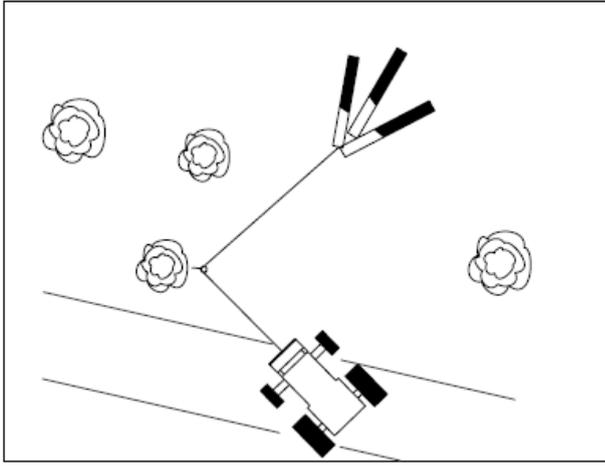

Fig. 7.
1. Choose a horizontal, hard based skidding route for the tractor. Avoid steep slopes, especially when winching from the side. Check that the winching trail is clear and that the tractor's parking brake is on. Do not run the tractor at a high idle when winching. Maximum P.T.O speed is 540 rpm. Ensure that the logs can be drawn freely. Be especially careful when working on slopes. Avoid winching sideways at angles exceeding 30 degrees. Use snatchblock which is fastened to the tree if needed. (See fig. 7.)